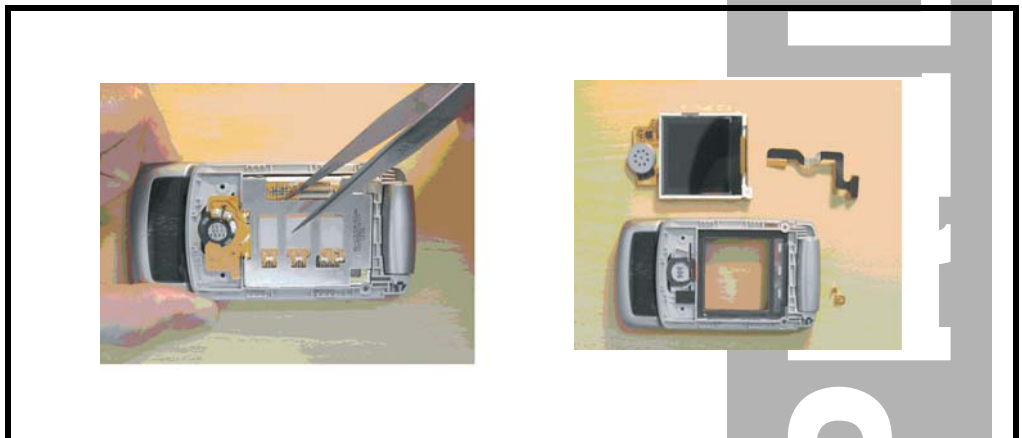

Figure 39. Removing LCM Module
2. Remove the LCM module from the Case-B with tweezers as shown in Figure 39.